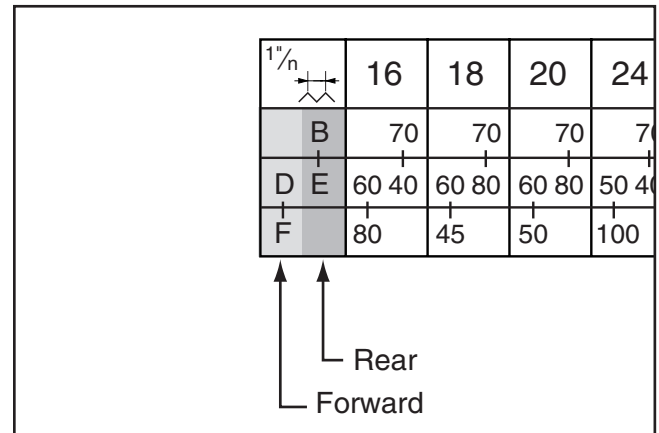

Figure 31. The shaded boxes show the thread pitches listed on this chart.
4. Each shaft has room for two positions to mount the gears—a forward position and a rear position. **Figure 31** separates these positions into different shades for you to understand better.
Both forward and rear positions must be filled on the shaft in order for the gears to work properly. A good example of this is the blank spot to the right of gear “F,” as shown in the chart in **Figure 31**. Although the chart shows this as a blank spot, there should actually be a spacer in this position on the machine. This spacer is not listed on the chart, because the chart only reflects ACTIVE gear positions.